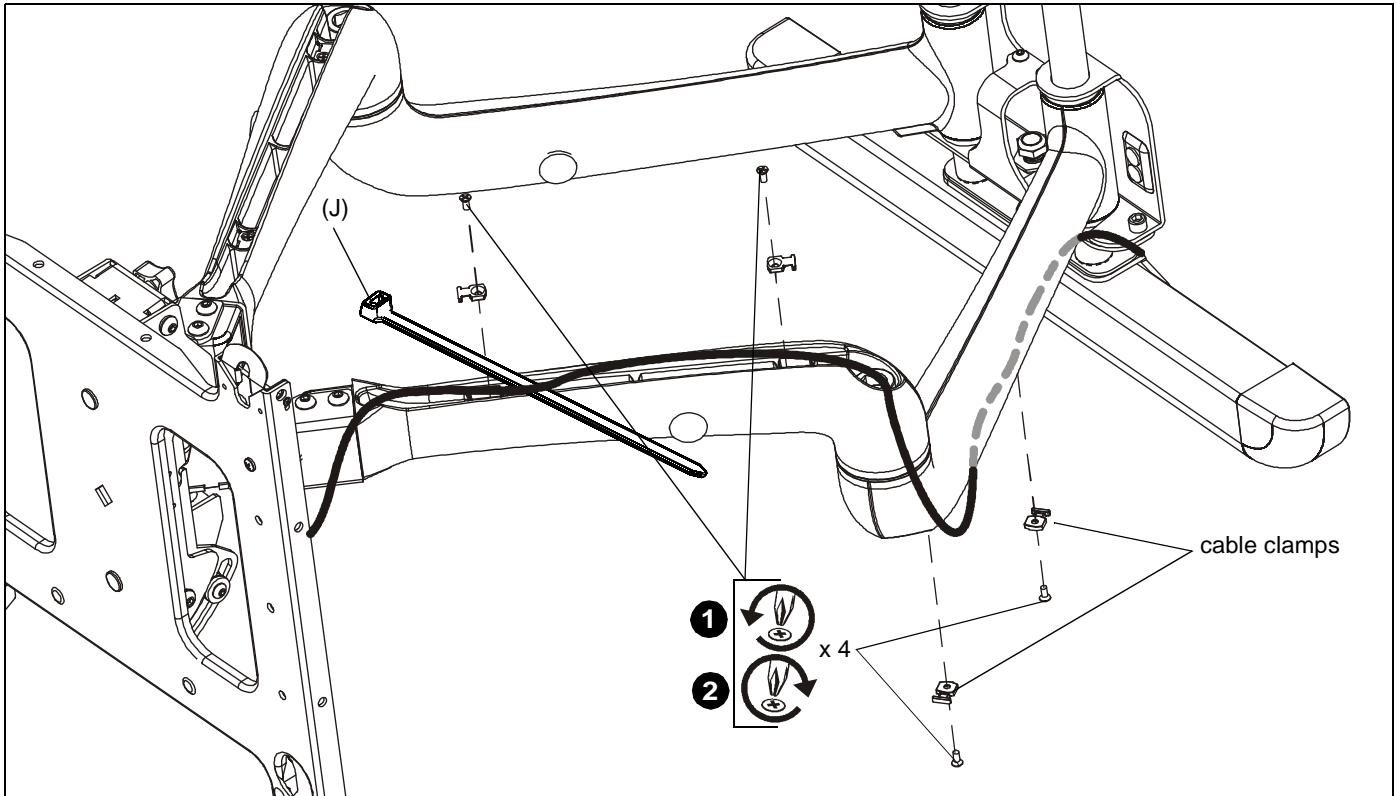
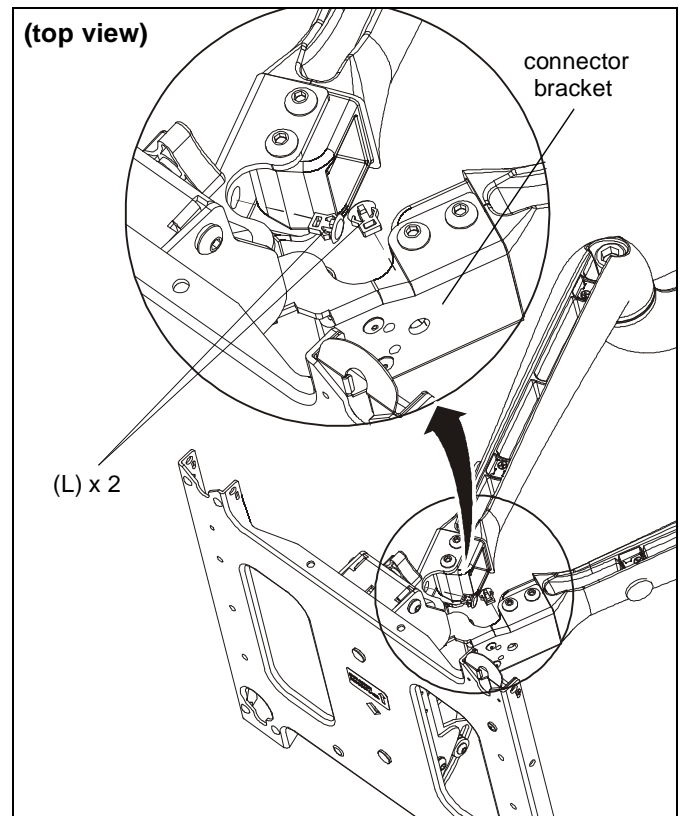

Figure 7
Figure 8
1. Loosen front and rear cable clamps on top arm. (See Figure 7)
2. Thread cable ties (J) under cable clamps and secure clamps to top arm. (See Figure 7)
3. Route power/audio/video cables through the cable channel in top arm (See Figure 7), allowing sufficient slack in cables for left/Right movement of display and swing arm and also swing arm extension and retraction.
4. Secure cables to top arm using two cable ties (J).
6. (Optional) Install two cable clips (L) into holes on connector bracket. (See Figure 8)